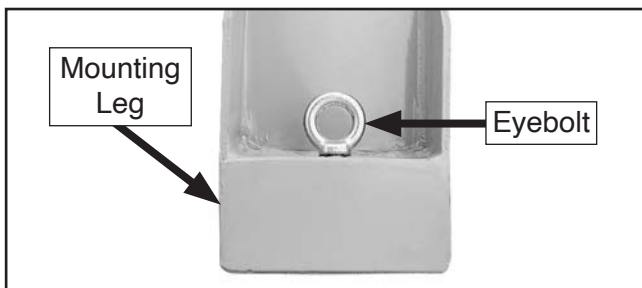

Figure 27. Eyebolt location on mounting leg.
10. Connect lifting straps to (6) eyebolts on mounting legs and secure (see **Figure 27**).